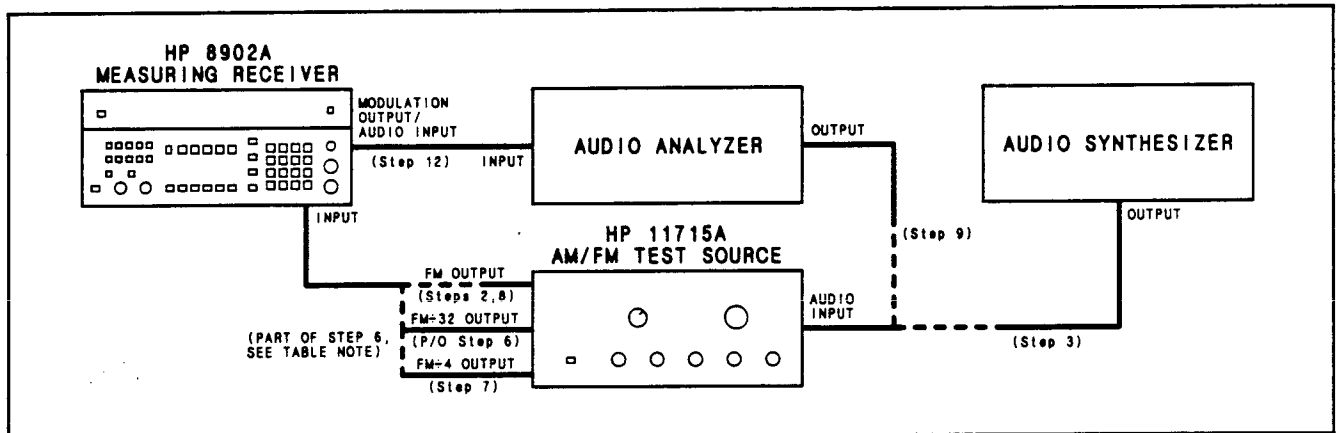

Figure 4-3. Φ M Performance Test Setup
2. On the AM/FM test source, set the test mode to FM. Connect its FM output to the Measuring Receiver's INPUT. (See Figure 4-3.)
3. Set the audio synthesizer to 200 Hz at -10 dBm. Connect its output to the audio input of the AM/FM test source. (See Figure 4-3.)
* Connect the FM÷32 output of the AM/FM test source to the Measuring Receiver's INPUT to make this measurement. (See Figure 4-3.) Press AUTOMATIC OPERATION, then MHz to return the Measuring Receiver. If the resolution is not 0.001 rad, press Φ M again.
7. On the Measuring Receiver, key in 3.1 SPCL to set the IF to 455 kHz. Press FM. On the AM/FM test source, connect the FM÷4 output. (See Figure 4-3.) Set the audio synthesizer frequency as shown in the following table. Set the Measuring Receiver High Pass Filter as shown in the table. Set the audio synthesizer level to give the FM deviation shown in the table. After setting each FM deviation, press Φ M. For each setting, the Measuring Receiver's display should read between the limits indicated in the table.
8. Connect the FM output of the AM/FM test source to the Measuring Receiver's INPUT. (See Figure 4-3.) Press AUTOMATIC OPERATION on the Measuring Receiver.
9. Set the audio analyzer's oscillator to 1 kHz. Connect its output to the audio input of the AM/FM test source. (See Figure 4-3.)
12. Connect the audio analyzer's input to the Measuring Receiver's MODULATION OUTPUT/AUDIO INPUT. (See Figure 4-3.) Set the audio analyzer to measure the distortion on the 1 kHz signal at the MODULATION OUTPUT/AUDIO INPUT. Set the high-pass filter on the audio analyzer to 400 Hz. The distortion should be 0.1% (-60 dB) or less.